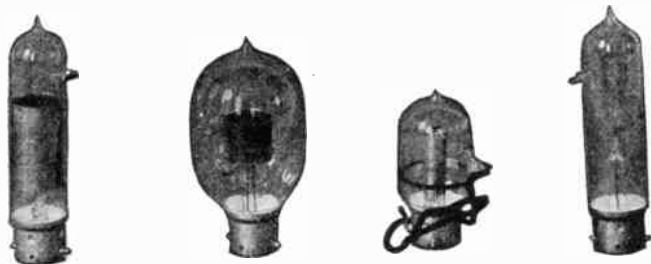

Fig. 1. A carbon filament and plate sealed in highly evacuated tubes were used by Fleming
J. A. Fleming described in the "Proceedings of the Royal Society of London," 1890, experiments which he carried on with a carbon filament and plate sealed in a highly evacuated tube, Fig. 1. Under ordinary conditions, no current can be passed from the filament to the plate. If the air is sufficiently exhausted even an induction coil will not discharge through the space. As was the case in Zehnder's trigger-tube, however, a current will flow when there is a glow in the tube, or, in Fleming's valve, the ionization is caused by the heated filament. Even a single cell will